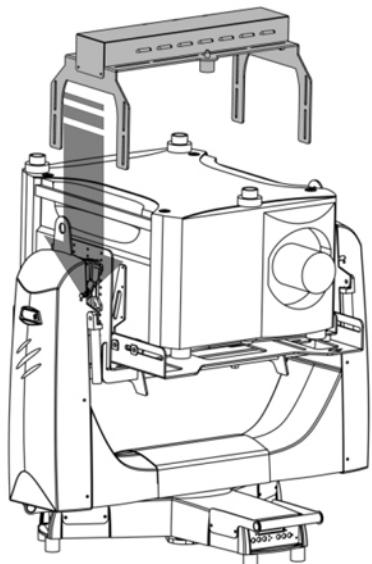

Figure 3-31 Fasten Head Box to Bracket
5. Install the Head Box as shown in **Figure 3-31** using (2) TH 6x16 screws, (1) 6x18 flat washer and (1) split lockwasher on each side.